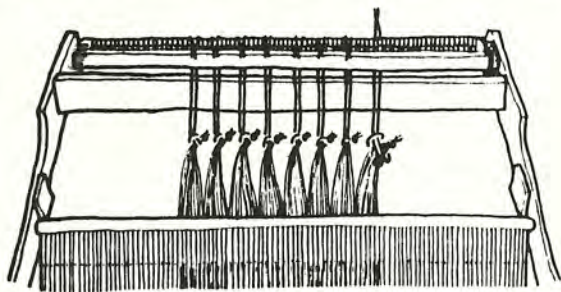

fig. 13
9. When 10 ends have been threaded, tie them together in an overhand knot (fig. 13). Continue until all warp ends have been threaded and tied.
11. Attach the cord loops to the warp bundles with a larks head knot (fig. 13). Bring the knotted ends of cord over the back beam, under the warp beam and hook them over several warp beam dents.